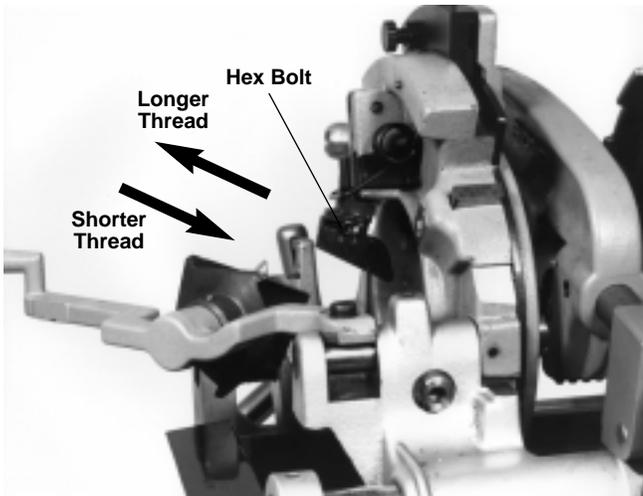

Figure 11 – Position Die Head Trigger Foot for Long or Short Thread
1. If shorter thread form is desired, loosen hex bolt on die head trigger foot (Figure 11) and slide trigger foot toward machine. Re-tighten hex bolt. (FOOT-IN)
2. If longer thread form is desired, loosen hex bolt on die head trigger foot (Figure 11) and slide trigger foot away from machine. Re-tighten hex bolt. (FOOT-OUT)